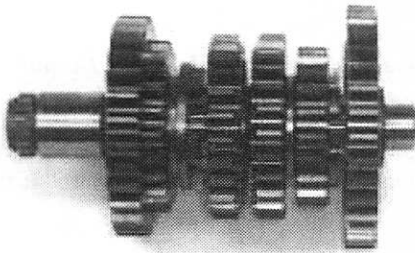

Figure 47
- Mainshaft: Figure 45 and Figure 47.